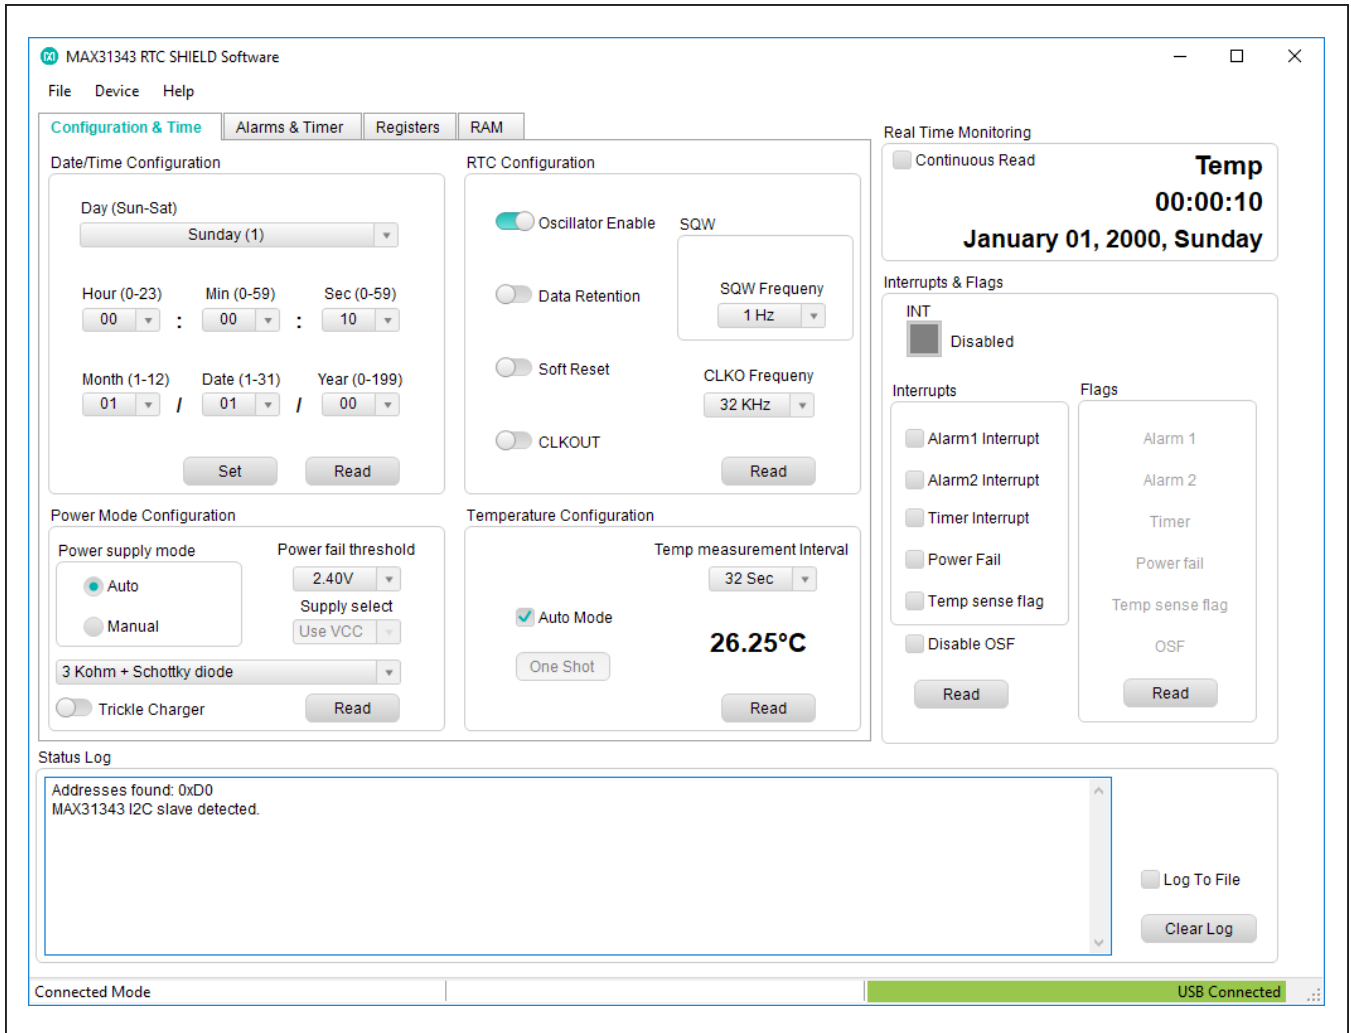

Figure 2. MAX31343 RTC SHIELD Software—Configuration & Time Page
- 6) Open the MAX31343 RTC SHIELD software, shown as Figure 2.